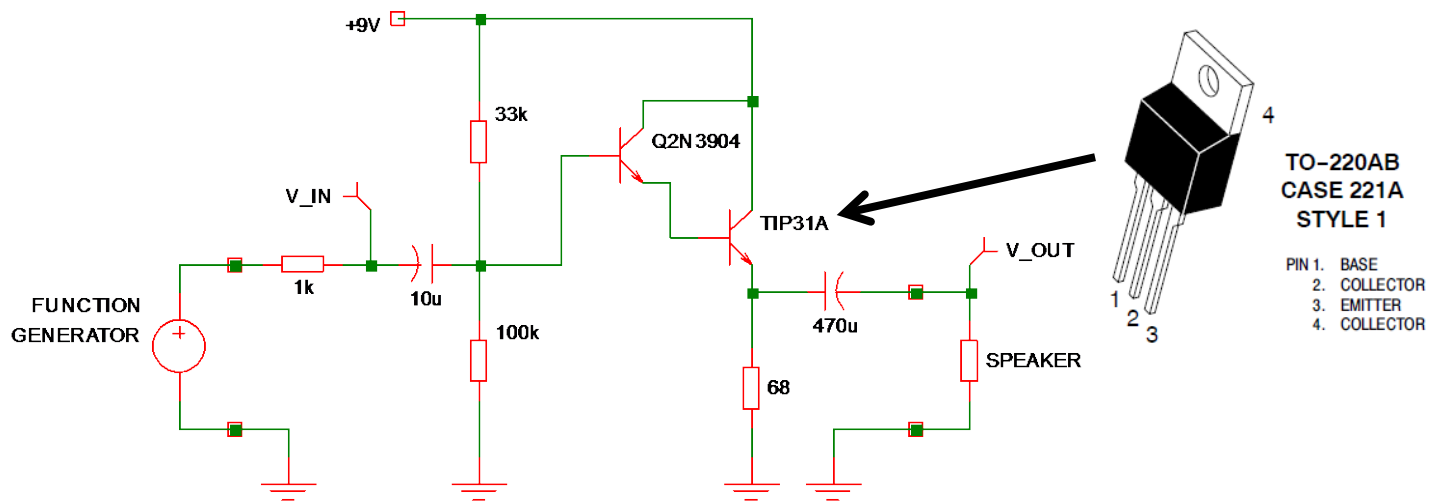

Fig. 3: Darlington follower using a 2N3904 with a TIP31A power transistor. The TIP 31A pin diagram is shown on the right.
- Step 3a: Build the Darlington follower shown in Fig. 3.